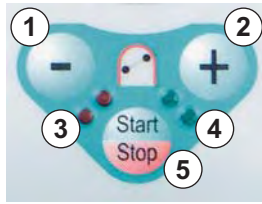

Fig. 2-9 Blood pump operating keys
The **- key** (Fig. 2-9, ①) and the **+ key** (②) lower or raise the delivery rate of the blood pump.